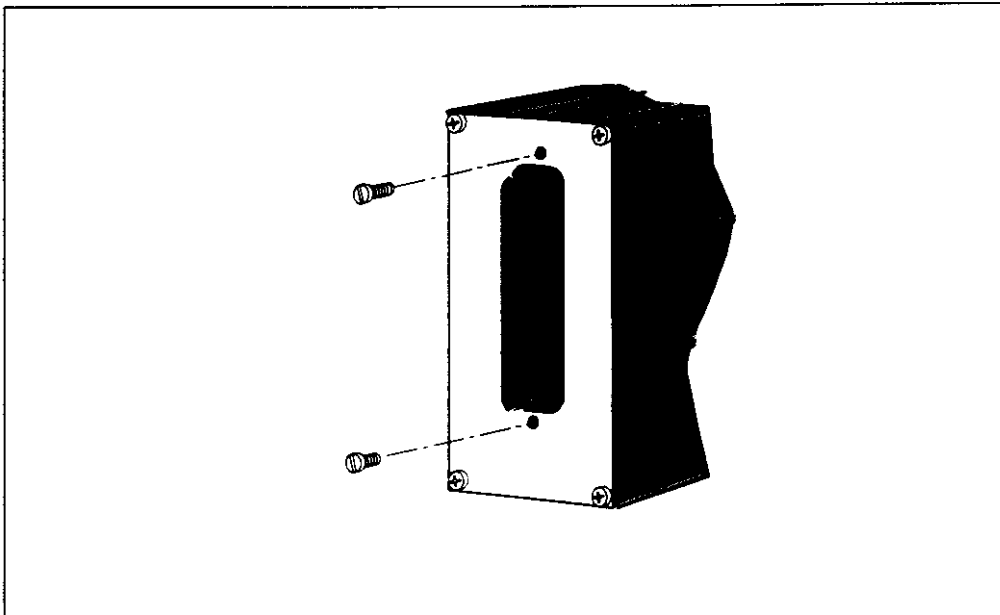

Figure 4.2: Module Rear Plate Screws
3. In the module rear plate, undo the two screws on either side of the connector that protrudes through the plate (see Figure 4.2). Put the screws in a safe place for refitting the PCB.
2. Using the two screws kept from the removal of the PCB, insert a screw into each of the holes in the PCB connector through the holes provided in the module rear plate (see Figure 4.2). Tighten the two screws a half-turn at a time.
4. In the module rear plate, undo the two screws on either side of the connector that protrudes through the plate (see Figure 4.2). Put the screws in a safe place for refitting the PCB.